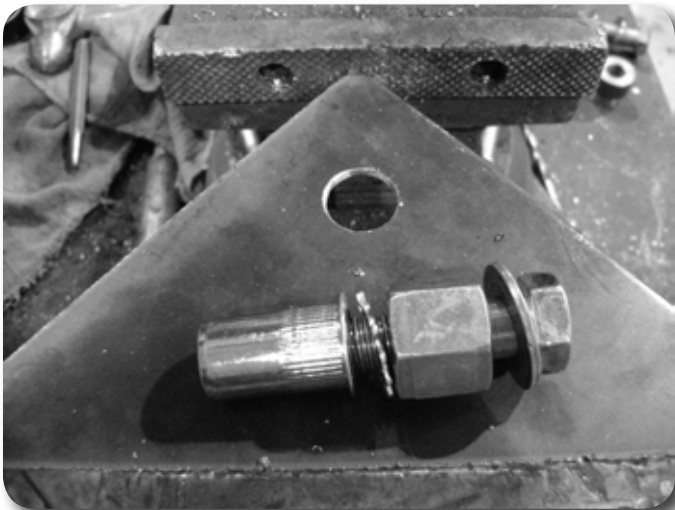

Figure 2
2. For a 3/8" rivet nut, place the provided 3/8" SAE flat washer on the 3/8" x 1-1/2" bolt, followed by 7/16" hex nut and then a 3/8" serrated washer. **Figure 2** Thread this tool assembly into the rivet nut.